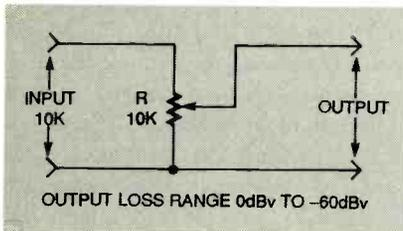

FIG. 5—Variable pad for a public address system.
Table 2 relates loss in decibels to the values of resistors Ra and Rb. Remember that pads can be put in series to obtain exact attenuation values. Figure 5 is the schematic for a simple variable pad consisting of a 10K audio-tapered potentiometer. This potentiometer will permit you to
Another interesting property of laser light is speckling. Due to the extreme precision of the beam, and the unevenness of most surfaces, especially those made of non-reflective or semi-reflective materials, what appears to be speckles of light surround the spot (see the photo in Fig. 5). In actuality, this is a sub-reflection of the beam. This type of surface absorbs and stops the light at the end of an optical bench or other experiment or demonstration. It limits the laser beam to its intended are. **EN**
**FIG. 5**—SPECKLING EFFECT OF LASER LIGHT results when you project the beam on a non-reflective surface. Note the flecks of light around the center. This also reveals the surface terrain of the illuminated object.